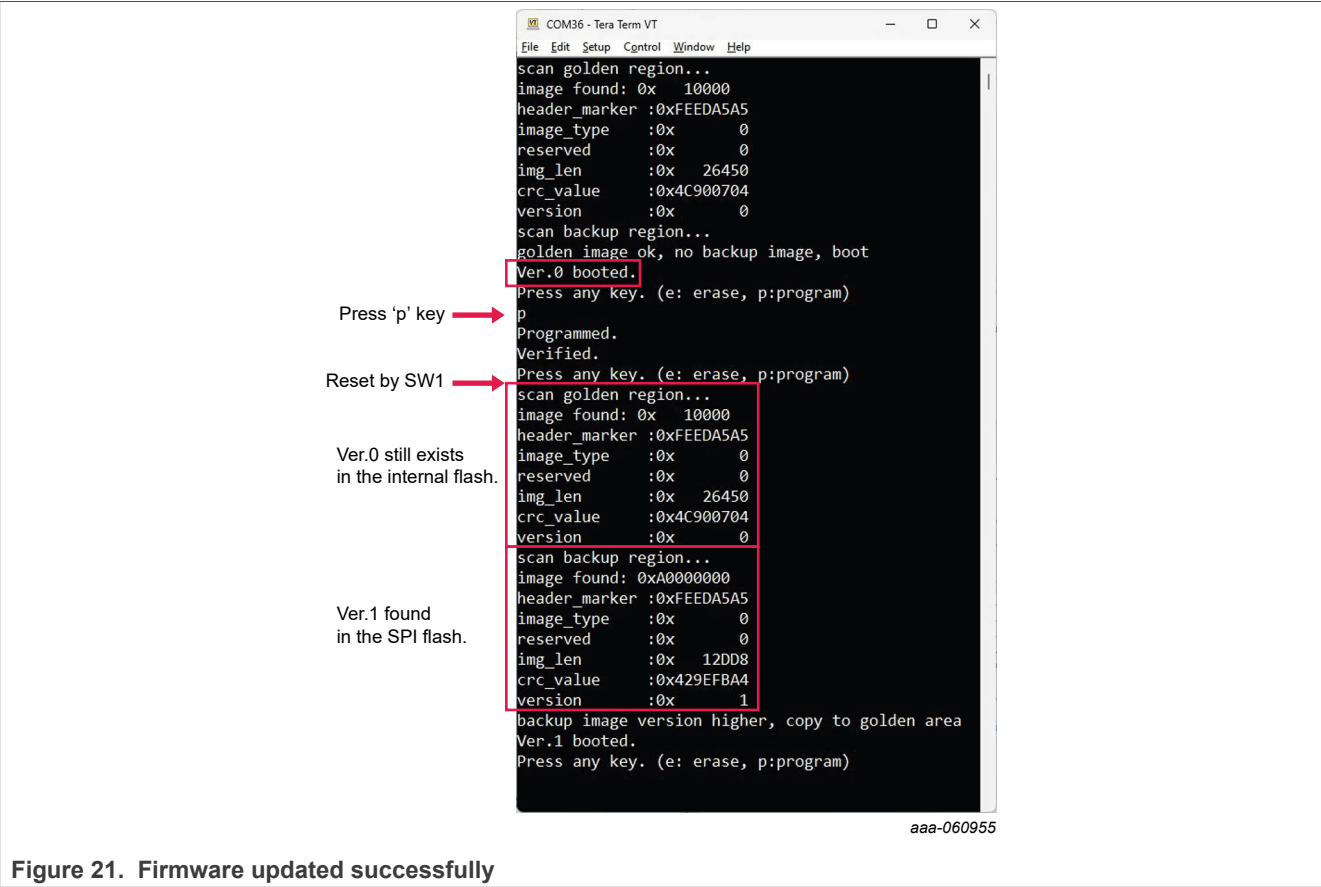

Figure 21. Firmware updated successfully
- b. After reset, "Ver.1 booted" is displayed in the console as shown in Figure 21.